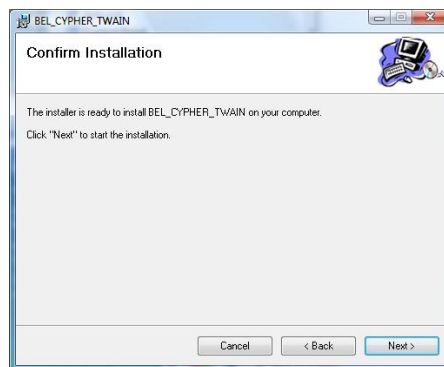

Fig 6 Confirm Installation screen
8) The dialogue such like Fig 6 is displayed. Click “Next”